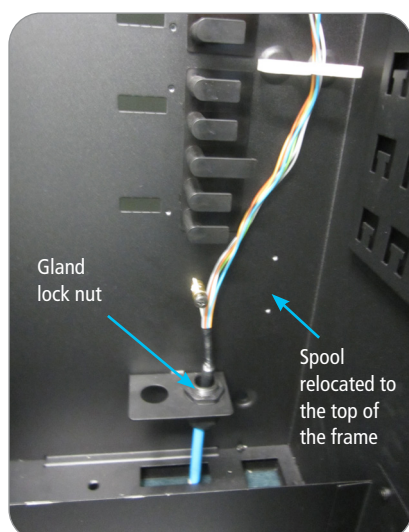

Figure 4.
- For cable entering the top of the frame, feed the prepared cable through the 25mm gland and fasten to the panel with the gland nut. For cables entering through the base of the frame, feed the prepared cable through the opening and fasten to the gland as shown in **Figure 4**.